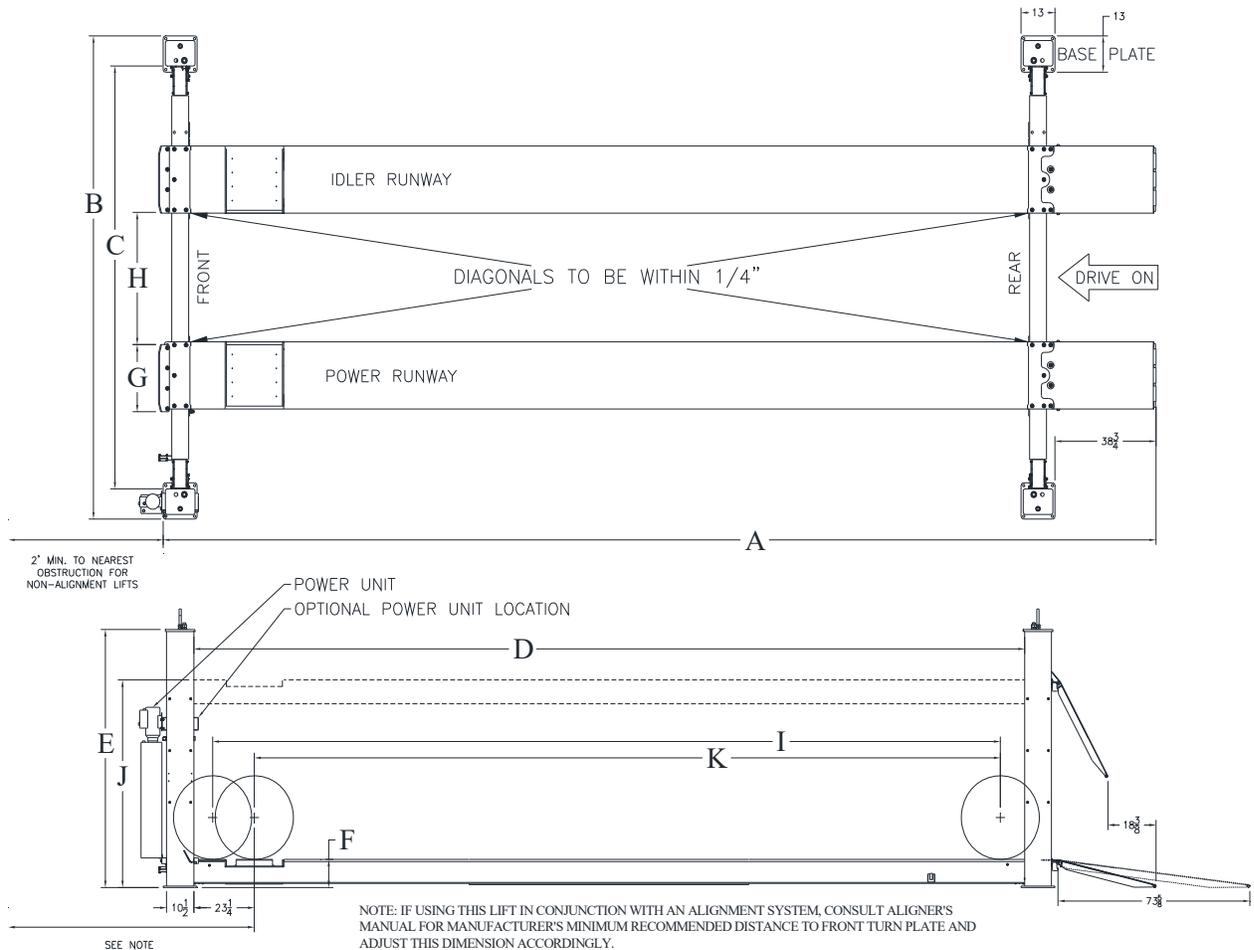
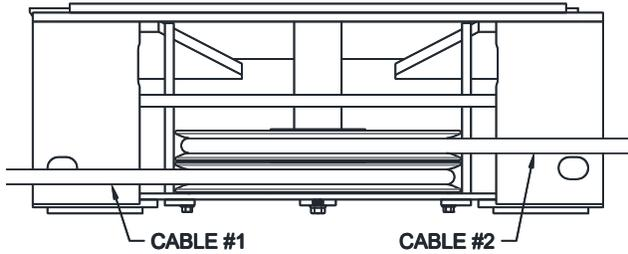

Fig 1 – General Specifications and Service Bay Layout
Fig 4 – Power Runway 2-Stack (front view)
- 1) Lay out the service bay according to the architect's plans or owners instructions (**see Fig 1**). Be certain that the proper conditions exist, see page 3.
- 7) Attach both cross beams to the runways (**Fig. 4**) using 3/4"-16, 2.5" Length Steel Hex Cap Screws, ZC-PLTD, a 3/4" screw size washer on the bolt head side, and nut side. secure with a 3/4"-16 GRADE 8 STEEL NYLON-INSERT LOCKNUT. Position the power runway on top of the cross rail and align the slots with the holes. The idler runway can be installed using the outer or inner sets of cross beam holes, see "Width Between Runways" dimension in Fig. 1. Do not torque bolts yet.